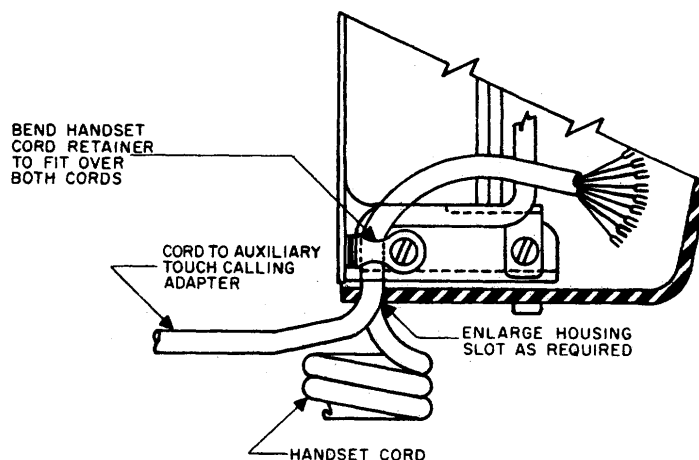

Figure 11. Routing and Securing Cord from Auxiliary Touch Calling Adapter to Type 183 Telephone.
- (a) Route and secure the adapter's cord to the Type 183 telephone as shown in Figure 11.